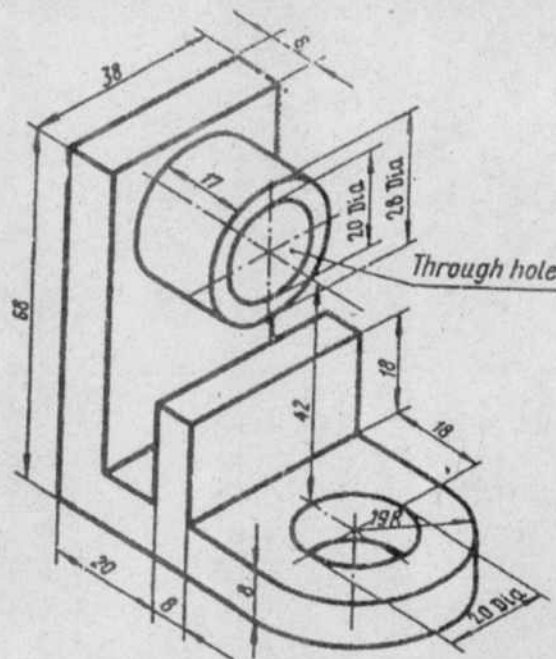

Fig. 1 : Bracket
2. Draw the front view, side view from right and top view as shown in Fig. 1 below : 5